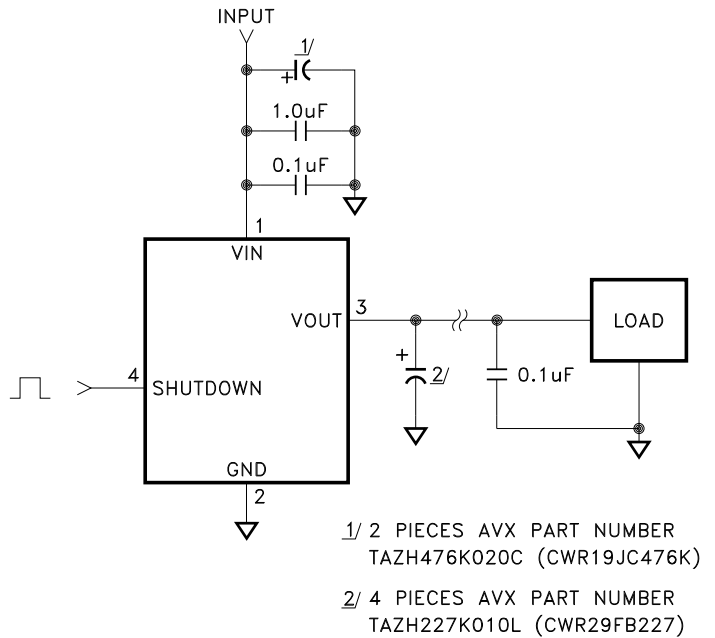

FIGURE 2
- ① Unless otherwise specified, VIN = VOUT + 1V, VSHUTDOWN = 0V and IOUT = 10mA. See figure 2 for typical test circuit.
- ② Guaranteed by design but not tested. Typical parameters are representative of actual device performance but are for reference only.
- ③ Industrial grade devices shall be tested to subgroups 1 and 4 unless otherwise requested.
- ④ Military grade devices ("H" and "K" suffix) shall be 100% tested to subgroups 1,2,3 and 4.
- ⑤ Subgroup 5 and 6 testing available upon request.
- ⑥ Subgroup 1,4 TC = +25°C